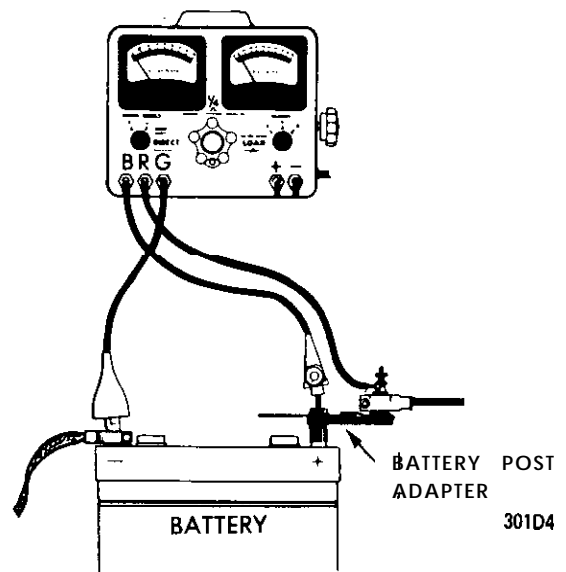

Figure 1D-4 Connecting Ammeter Leads
3. Connect ammeter leads to adapter with red lead toward generator and black lead toward battery positive post. Connect ground lead to battery negative post. See Figure 1D-4.